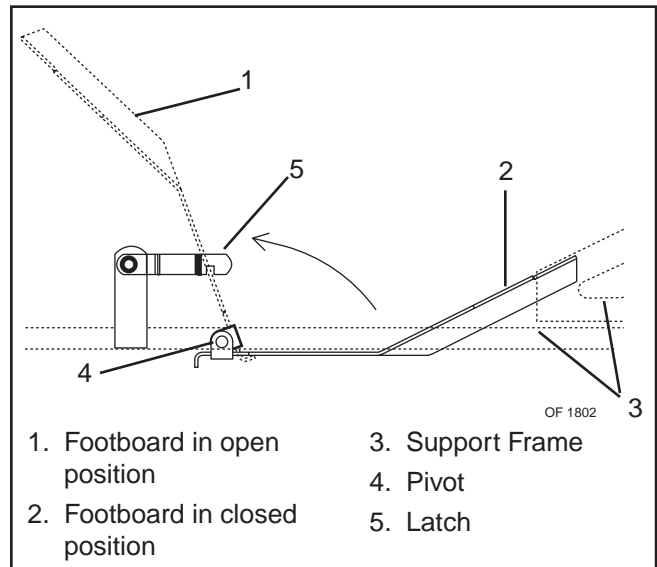

Figure 10
3. Place foot board in open position (Figure 10).
Removal (Figures 10, 11 and 12)
4. Place 1/2-inch driver and ratchet extension into square hole in PTO belt idler (Figure 10).
1. Install the new PTO belt on electric clutch, idler pulleys, and blade spindle pulleys (Figure 10).